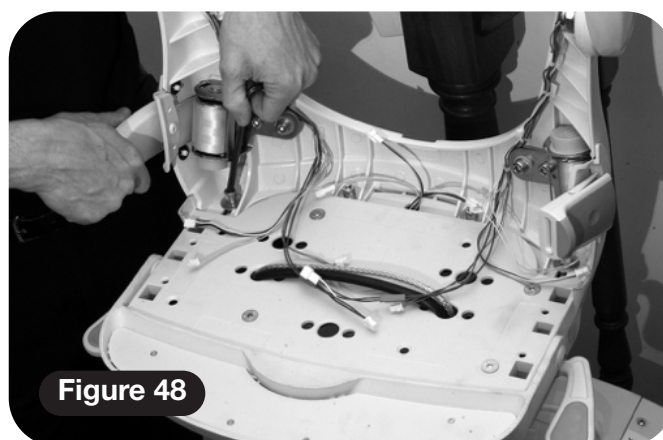

Figure 48
- 1 Place the seat back onto the seat base and using a ball ended 6mm Allen key secure it with the four bolts and washers provided **(Figure 48)**.